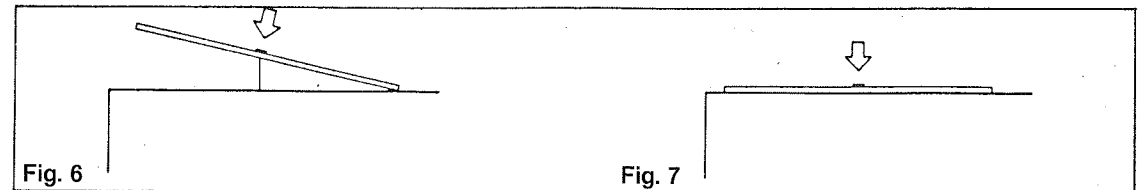

Fig. 6
3. Due to the hemispherical polar pattern, unwanted sounds from unexpected directions may sometimes be picked up. One remedy would be to angle the panel with the microphone away from the unwanted source, provided the panel is not too large nor permanently installed (Fig. 6). Some